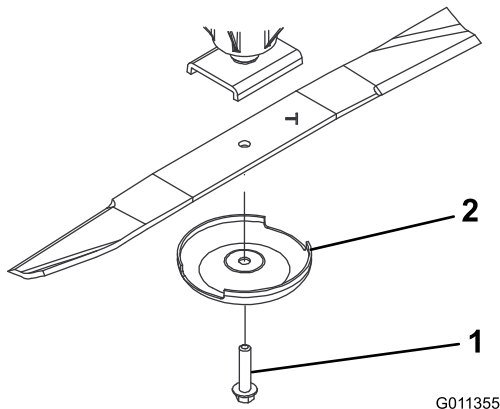

Figure 129
- Remove the blade bolt, anti-scalp cup, and blade from the spindle shaft (Figure 129).